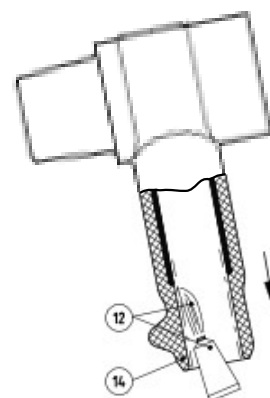

FIGURA 4
4 - PASSE A PASTA DE MONTAGEM (12) NA PARTE INTERNA DO TERMINAL DESCONECTÁVEL E NA PARTE EXTERNA DO CONE DE ALÍVIO (JÁ MONTADO) COMO INDICADO NA FIGURA 4.